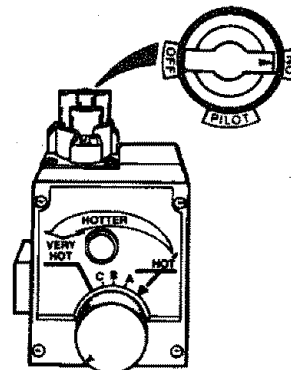

Figure 8
11. At arms length away, turn gas control knob counter-clockwise (↻) to the full "ON" position. **WARNING Do not use gas control knob to regulate gas flow.** (Figure 8, page 15)